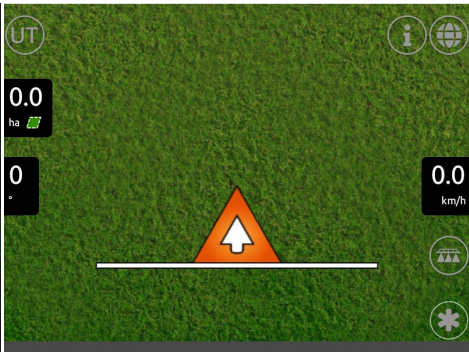

Fig. 117
- When the settings are complete, press **Start** to start the new job (Fig. 117).